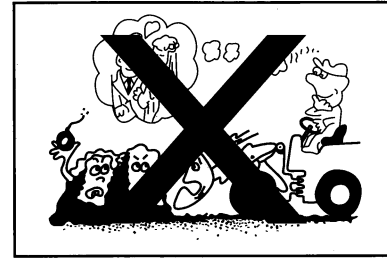

Figure1-21
- Don't operate the loader if you feel uncomfortable or take medicines or drink alcohol. Operating the loader with bad health may injure others or yourself. (Figure 1-21)